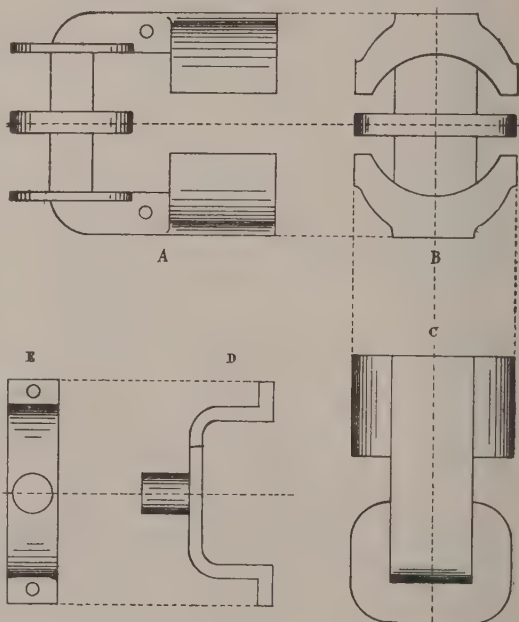

FIG. 1.—CARCASE AND BEARING.
castings, unless they have had some little experience in the art of pattern making; in which case an exact model of the carcase (Fig. 1) shown in plan (A), end (B), and side (C) elevations, should be constructed of hard wood. The patterns should be coated with shellac varnish, or painted, and afterwards rubbed down smooth. A “core-print” $1\frac{1}{8}$ ins. diameter must be provided for taking out the space between the pole-pieces, beyond which it is allowed to project about 3 ins. on the outside, but flush inside. The carcase is then divided into halves lengthwise, as indicated by the dotted line B, for convenience in moulding. The pattern for the gunmetal bearing (D and E, Fig. 1) may be left quite solid. The drawings are shown exactly one-half of full size.